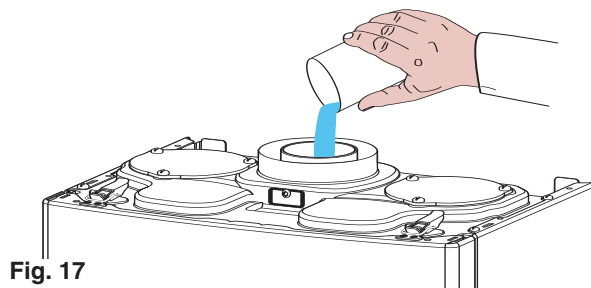

Fig. 17
**Attention ! Before starting the boiler, the trap (11 Fig. 7, page 11) must be filled with water. Before fitting the flue onto the boiler, pour 1/4 litre of water into the exhaust pipe as shown in Fig. 17 (page 19).**
BEFORE CONNECTING THE FLUE, ENSURE THAT 1/4 LITRE OF WATER HAS BEEN POURED INTO THE EXHAUST CONNECTION TO FILL THE CONDENSATE TRAP (FIG. 17). SHOULD THE TRAP BE EMPTY THERE IS A TEMPORARY RISK OF FLUE GASSES ESCAPING INTO THE ROOM.